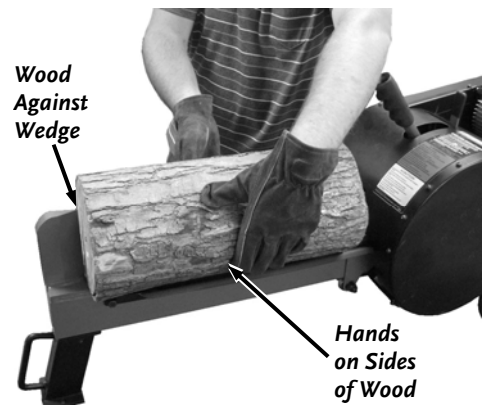

Figure 9
1. Place the log on the Log Splitter. Grasp the log on the sides near the middle of the block (**Figure 9**). Center the log, side-to-side, on the rail of the Log Splitter, making sure that one end is against the Splitting Wedge.